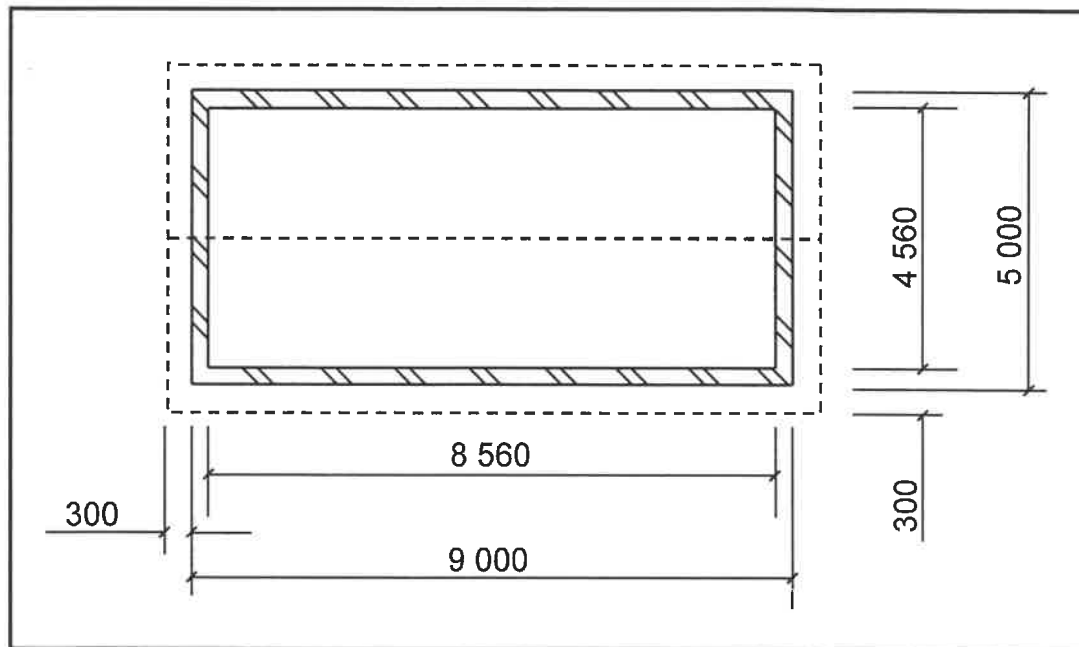

FIGURE 3.5
- 3.5 FIGURE 3.5 below shows a sectional view of a building with a lean-to roof. Study the figure and answer the questions that follow. Give your answers in metres (m).